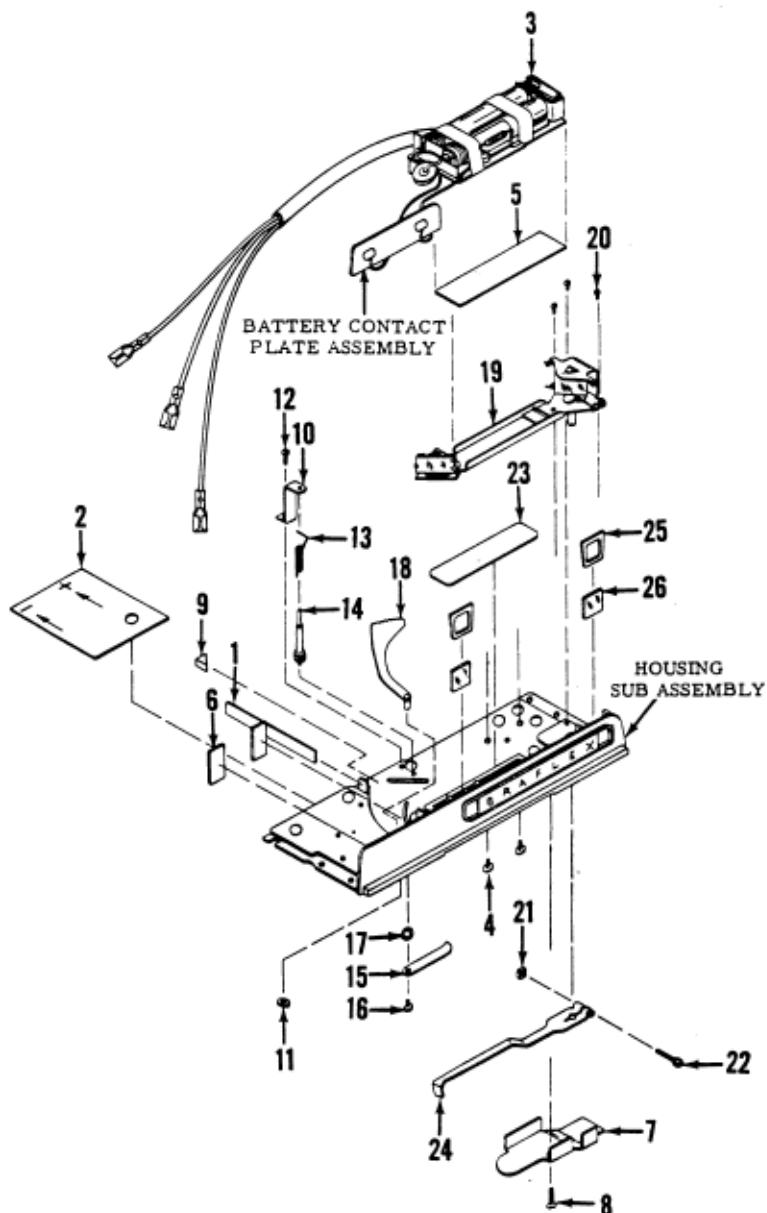

Figure 10. RANGEFINDER HOUSING COMPLETE
V. RANGEFINDER HOUSING COMPLETE - DISASSEMBLY AND REASSEMBLY (Figure 10)
- a. Remove cemented battery partition (1) and guard (2).